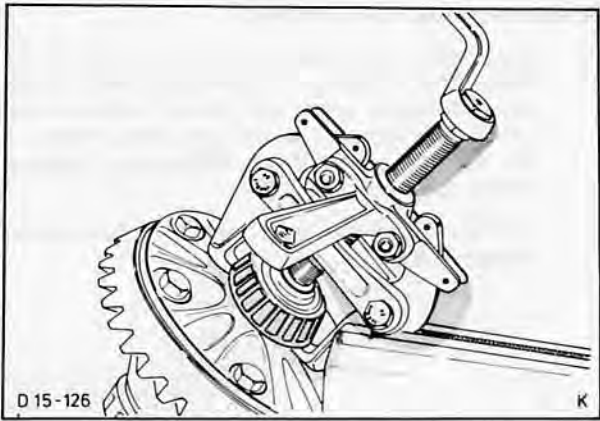

Fig. 103. Detach taper roller bearing from differential housing
- 7. Detach differential taper roller bearing from differential housing (both sides). Clamp Special Tool in a vice by one leg and pull off bearing, Fig. 103.